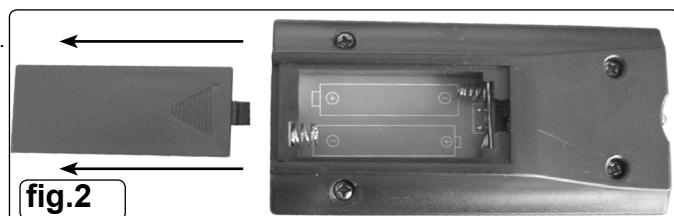

fig.2
5.4. To change the remote batteries, press down and push back the battery cover (fig.2), remove old batteries and replace with two new AAA batteries.